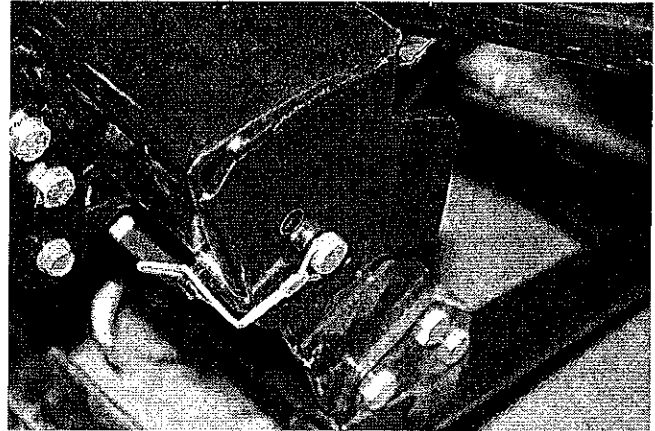

Figure 10
13. Insert the push tube assembly into plow mount. Insert the pins (B4). With the pins inserted, tighten the flange fasteners. See Figure 10.
18. With both alignment pucks seated into the plow mount the retaining pins can be inserted. Once inserted the retaining clips on the pins can be clipped onto locking tab on plow mount. See Plow operator guide "Installing the Plow" for more information. See figure 10.